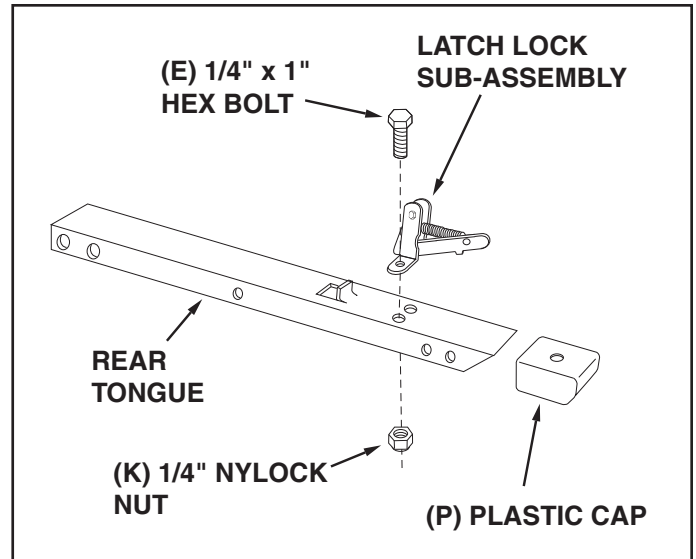

FIGURE 2
5. Assemble the latch lock subassembly to the rear tongue using two 1/4" x 1" hex bolts (E) and 1/4" nylock nuts (K). **Tighten.** See figure 2.
6. Assemble the plastic cap (P) to the front end of the rear tongue as shown in figure 2.